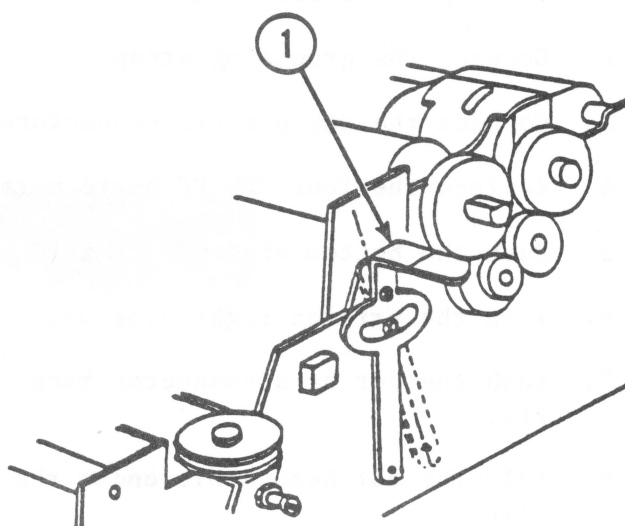

FIGURE 2
1. Push in on the head adjusting lever until it is pointing up. (See Figure 2, #1.)